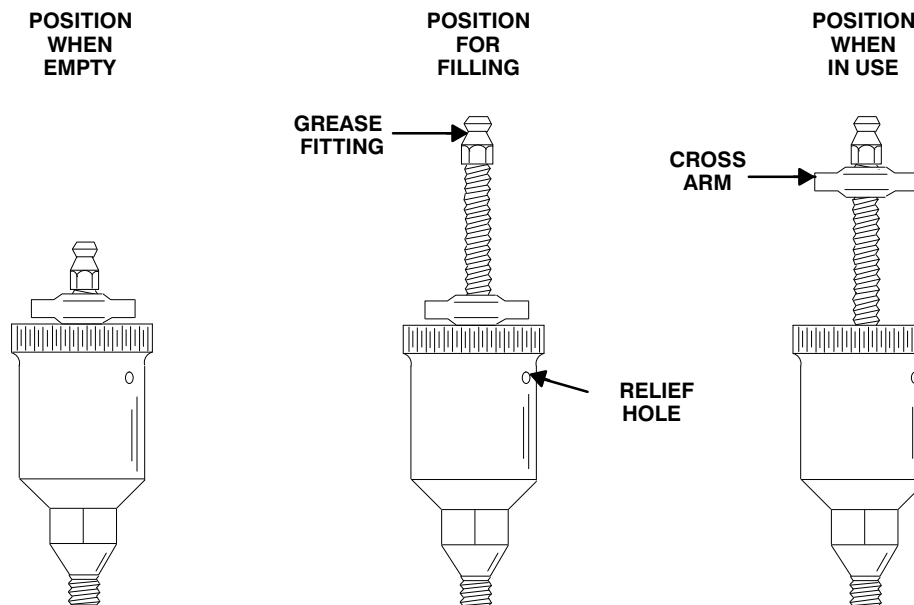

Figure 8. Automatic Lubricating Grease Cup
Fill the grease cup (24) through the grease fitting with No. 2 lithium base grease until grease escapes from the relief hole. Turn the grease cup arm counterclockwise until it is at the top of the stem; this will release the spring to apply grease to the seal (see Figure 8).